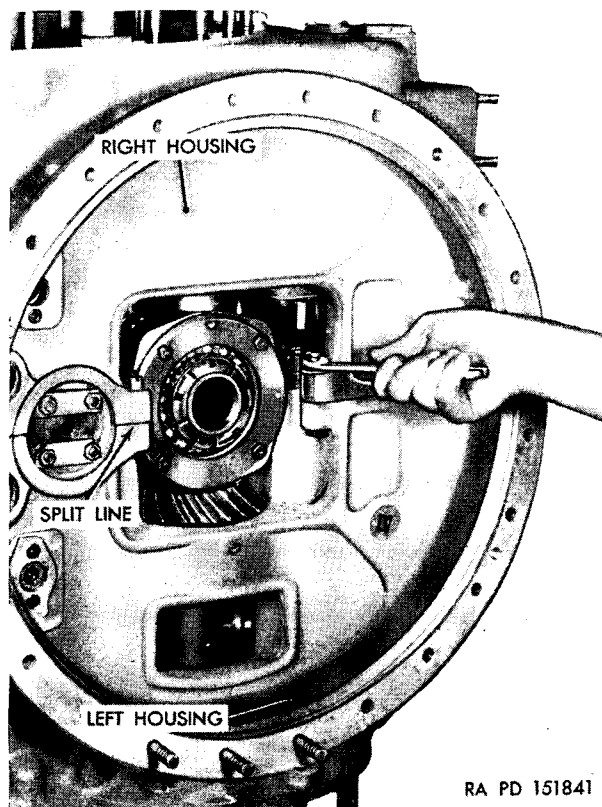
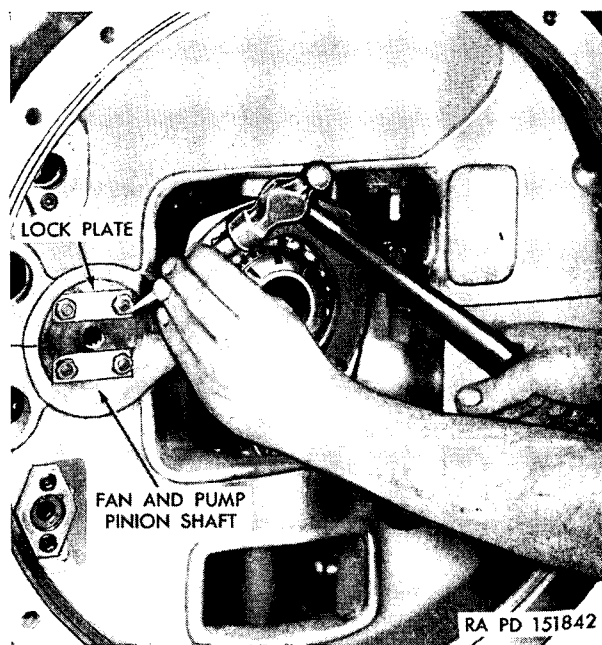

Figure 102. Removing or installing split-line castellated nuts.
Figure 103. Bending lock plate tabs.
k. SEPARATION OF THE LEFT AND RIGHT HOUSINGS. Remove the cotter pins from the two castellated nuts in the flywheel housing. Remove the two nuts, bolts and washers (fig. 102). Bend down the tabs on the lock plate (fig. 103) and, using a $\frac{1}{2}$ -inch wrench, loosen the nuts from the fan-and-pump drive assembly. It is not necessary